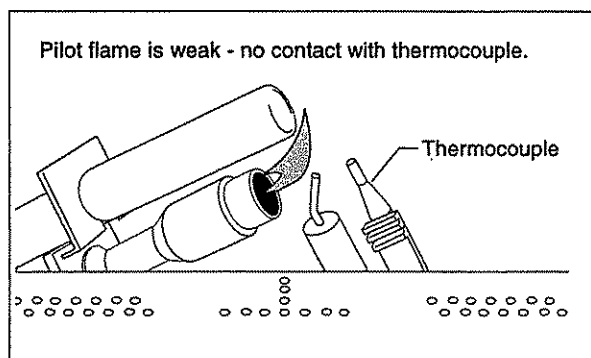

Figure 36. Incorrect pilot flame (Natural gas pilot assembly)
4. Pilot flame does not touch the Thermocouple. Figs. 36, 37. This can be caused by: A) Incorrect gas pressure, and / or B) other conditions that should be identified only by a qualified service technician.	4. A) Contact the local gas company. Inlet supply pressure should be between 5" W.C. and 8" W.C. for NG (5" W.C.- 7" W.C. over 8000 ft. elevation) and 11" W.C. -12" W.C. for LP . Adjust as necessary. B) Call local gas service technician.